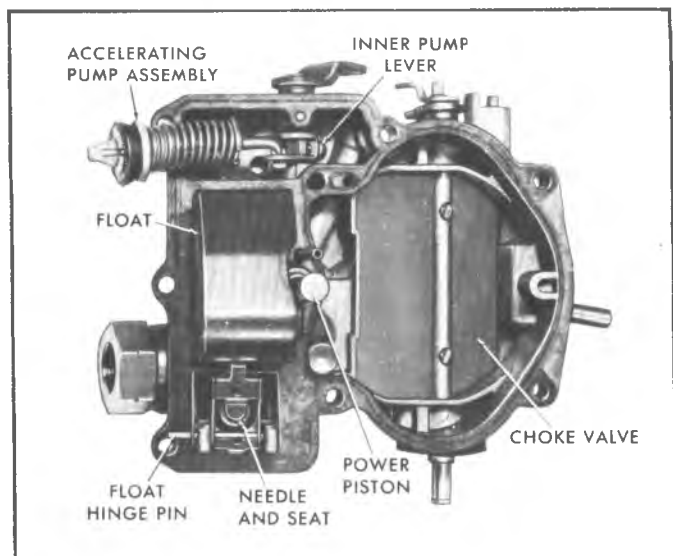

Fig. 4C—Air Horn
8. Place air horn on flat surface. Remove float hinge pin and lift float from air horn. Float needle, and pull clip (if used), may now be removed from float arm (Fig. 4C).
### Air Horn (Fig. 4C)